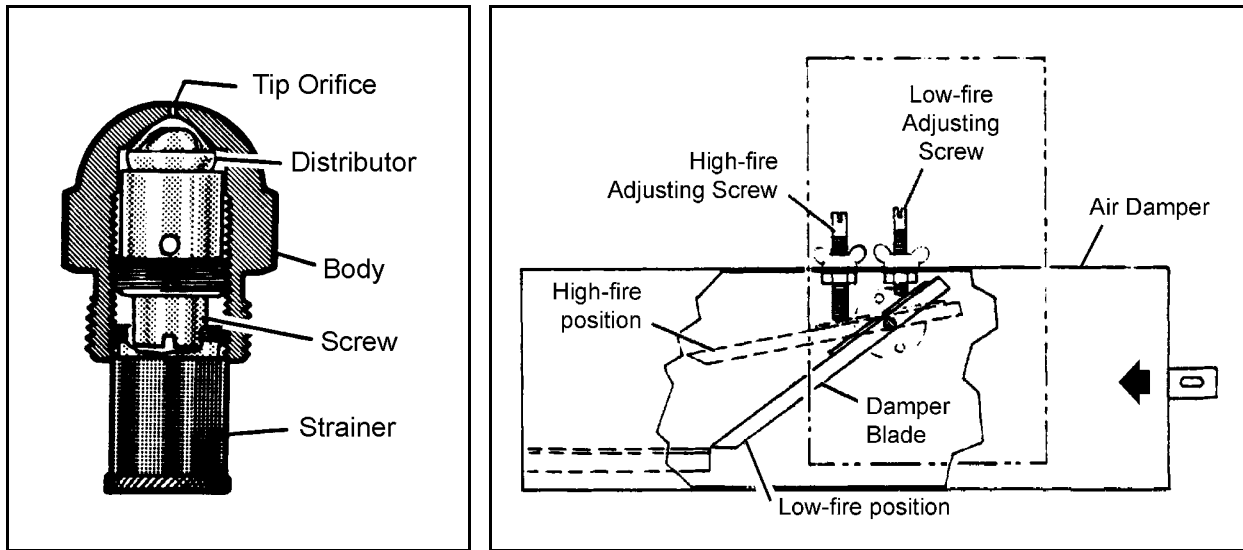

Figure 7-13 Oil Burner Nozzle, left; Air Damper, right
- c. Unscrew Burner Nozzles (1) from the Stem. Unscrew the Strainer (see Figure 7-13) from the Nozzle and remove the Screw. Blow parts out with compressed air jet if available. Be sure all dirt and grit is removed.
(See Figure 7-13.)